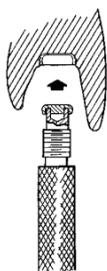
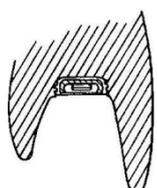

Fig. C4
Fig. C5
9. The LOCATOR[®] Male Seating Tool (attached to the LOCATOR[®] CoreTool) is used to firmly push a LOCATOR[®] Replacement Male into the metal denture cap. (Fig. C4) The Replacement Male must seat securely into place, level with the rim of the cap. (Fig. C5)